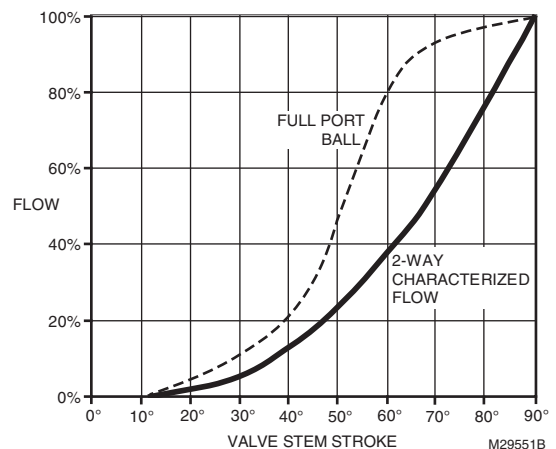

Fig. 31. Typical flow characteristics.
1. With modulating actuator, limit span of control voltage issued by the building automation controller. Valves with flow control inserts have an equal percentage flow characteristic (See Fig. 31). Each 10% reduction in maximum control voltage will result in a 10% reduction in flow.
2. To mechanically limit stroke, set DCA to full open position. Loosen shaft coupling and rotate valve shaft to desired maximum flow position, as confirmed by pressure measurement across coil, using coil manufacturer's data. Retighten shaft coupling. Use Fig. 31 as a guide to setting actuator stroke.